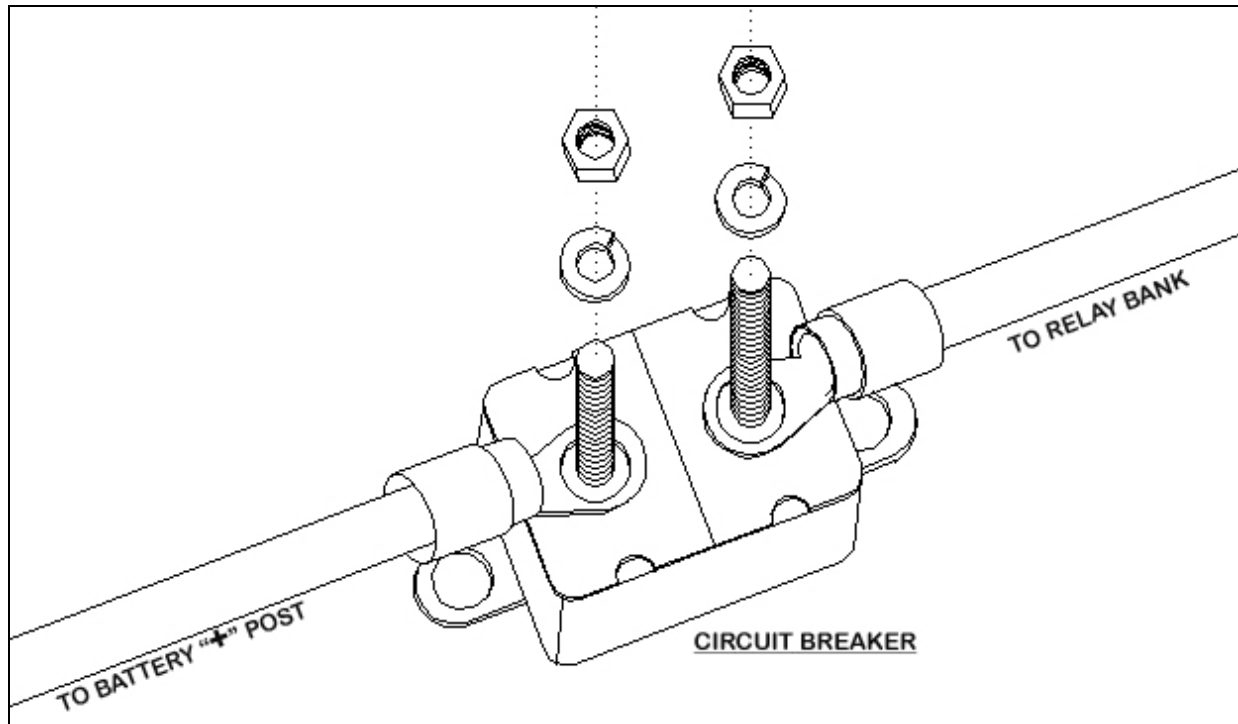

Figure 3: Circuit Breaker
10. Connect the RED wire to one side of a circuit breaker. Make this connection by cutting the extra length of the RED wire and using a ring terminal, washer and nut supplied with the parts kit. (See **Figure 3**) Do the same with the other RED wire and the other circuit breaker. (6-Bank Relay kit only)
11. You now have 2 pieces of red wire you cut from the RED “To Battery” wire. Install a ring terminal onto the end of each of the wires. These ring terminals will now be connected to the empty posts on each circuit breaker using the other nuts and washers in the parts kit. (See **Figure 3**)